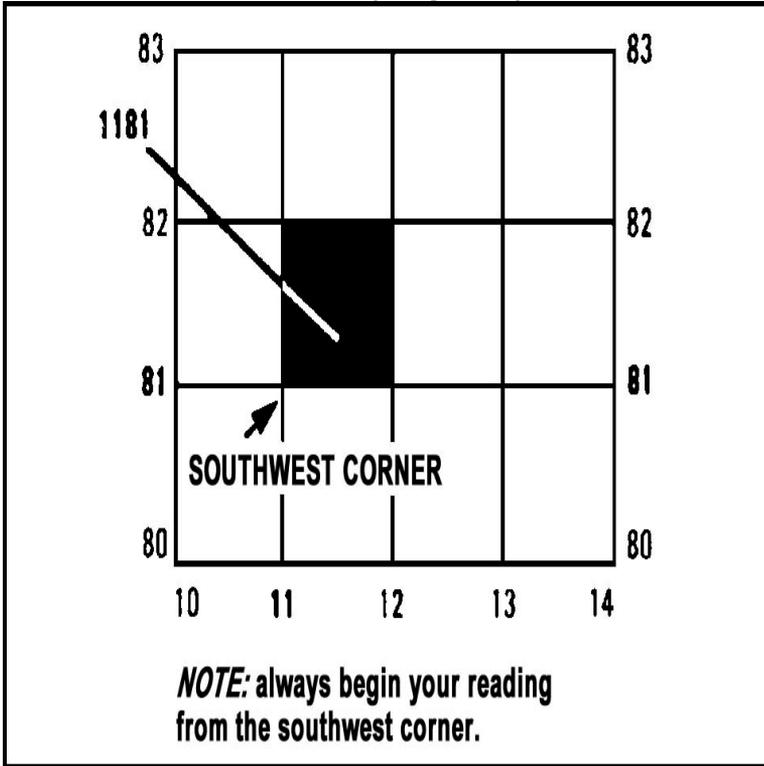

Figure 071-COM-1002-1. Identifying the Grid Square
1. Determine the coordinates of the grid square (Figure 071-COM-1002-1).
- Select the grid square that contains the identified point on the map (see Figure 071-COM-1002-1).
- Read the north-south grid line that precedes the desired point (see Figure 071-COM-1002-1).